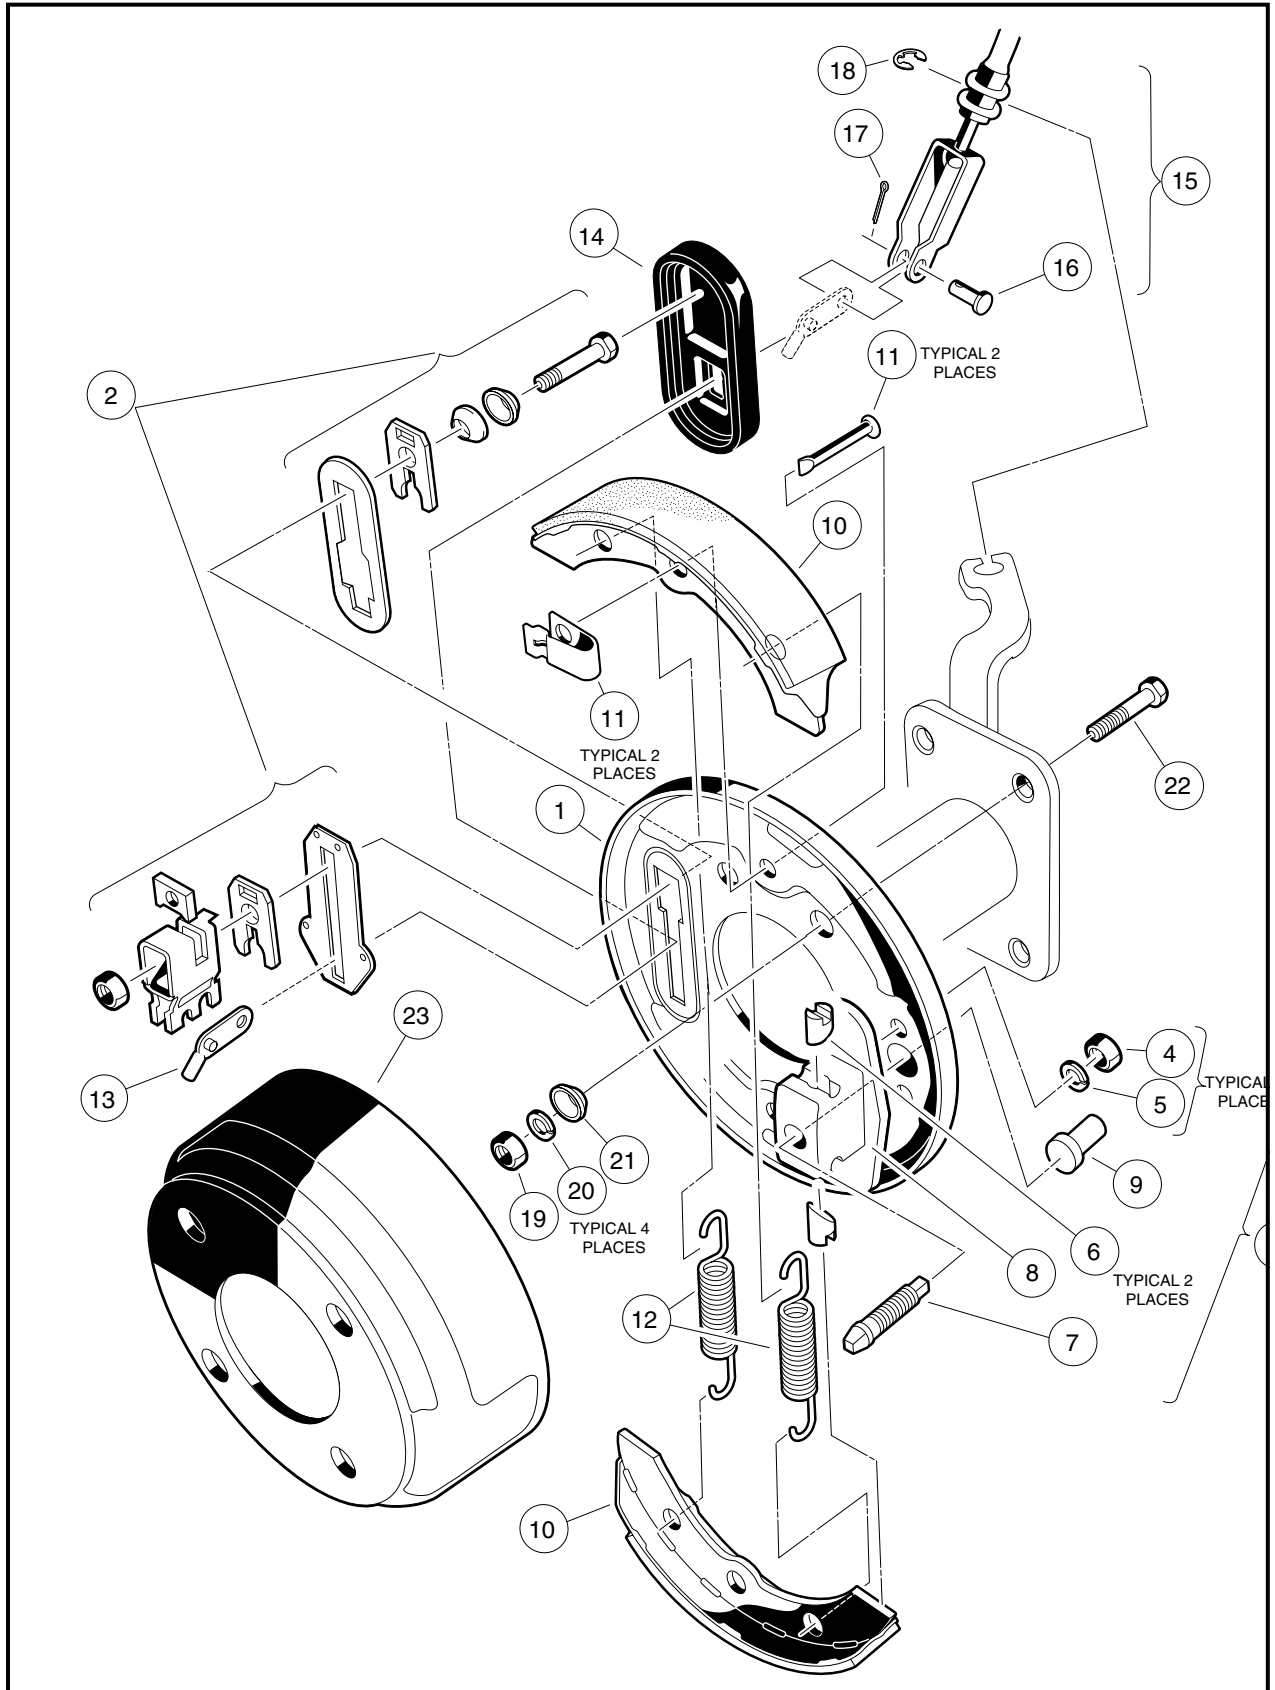

Figure 6-27 Front Manually Adjusted Brake Assembly
- COMPONENTS OF THE FRONT WHEEL BRAKE ASSEMBLY ARE IDENTICAL TO THE REAR WHEEL MANUALLY ADJUSTED BRAKE ASSEMBLY. THE FRONT BRAKE ASSEMBLY IS ROTATED 90° (WHEN COMPARED TO THE REAR BRAKE ASSEMBLY) SO THE ADJUSTING BOLT ON EACH ASSEMBLY IS ORIENTED TO THE REAR OF THE VEHICLE RATHER THAN AT THE TOP OF THE ASSEMBLY (**FIGURE 6-27, PAGE 6-15**).
5. Remove cotter pin (17) and clevis pin (16) from brake cable (**Figure 6-27, Page 6-15**).
8. Remove hub and bearing assembly from spindle shaft. Remove four bolts (22), cone washers (21), lock washers (20) and hex nuts (19) that mount the brake assembly to the spindle (**Figure 6-27, Page 6-15**).
1. Install in reverse order of disassembly. Use bolts (22), cone washers (21), lock washers (20) and hex nuts (19) to mount brake assembly (**Figure 6-27, Page 6-15**).